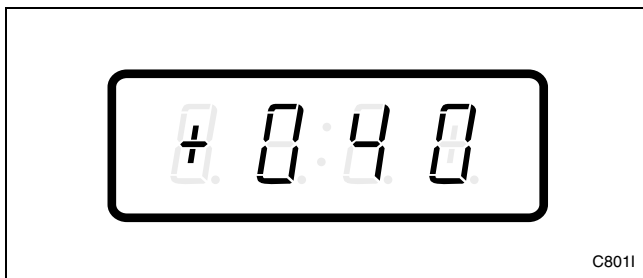

Figure 148
3. Press the LOW TEMP (+) or the NO HEAT (-) keypad to scroll through the programmable options until “+040” appears in the VFD. Refer to *Figure 148*.